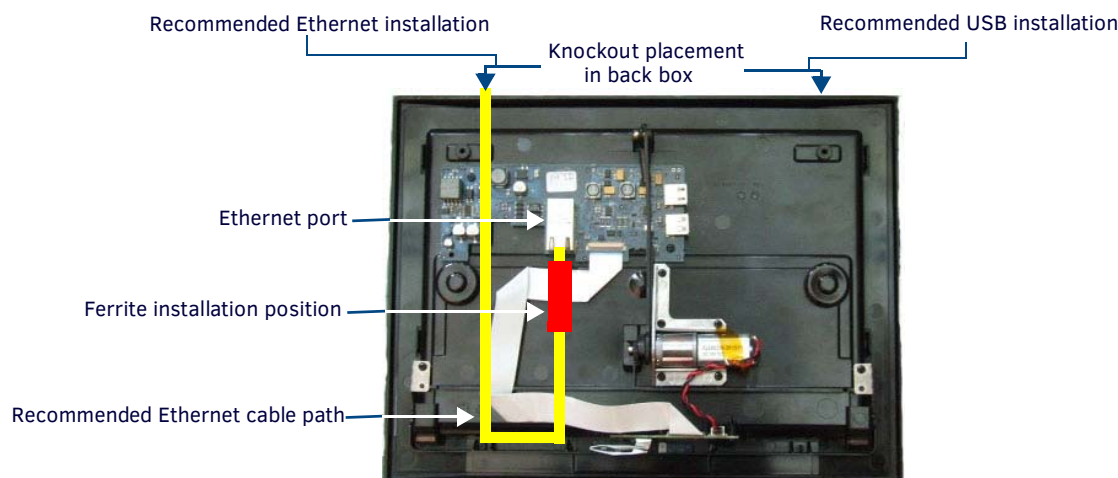

FIG. 15 MVP-WDS-9 - Ethernet cable path
7. Attach the included snap-on ferrite to the Ethernet cable, as close to the RJ-45 connector as possible. Attach the cable to the Ethernet Port (FIG. 15).